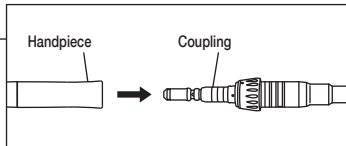

Fig. 18
1) Connect the coupling to the hose. Refer to the manufacturer's coupling manual for details. 2) Insert the handpiece firmly onto the coupling until it clicks to engage. (Fig. 18)